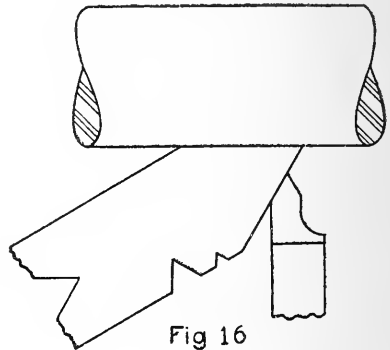

Fig. 16
**Setting Tool.**—To set the tool so that both sides of the thread will have the same angle, the thread gauge is used as shown in Fig. 16. The tool should be set on a level with the center of the lathe.
To reset the tool in the lathe first get the angles correct, as shown in Fig. 16. Then revolve the lathe forward by hand to take up the slack in the gears and move the tool in close to the threads. If the tool is in a position so that it will cut too much off one side of the thread, it may be changed by disengaging the reversing gears with the lever R and turning the lathe by hand.